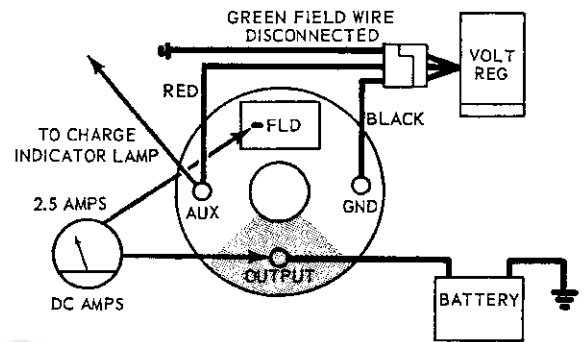

FIG. H-28—FIELD CIRCUIT TEST—AMPERAGE DRAW
Amperage Test — Refer to Fig. H-28.
- a.** Reference Par. H-73, Fig. H-28.